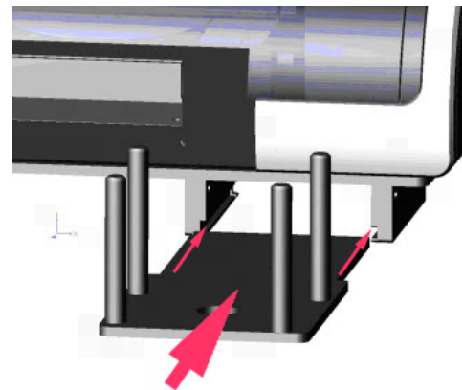

Figure 2.1 Mounting Disc Output Tray
2. Mount the disc output tray by sliding it into the lower right base of the printer stand (see Figure 2.1). You will feel a slight click when the tray has been slid all the way into the printer base.